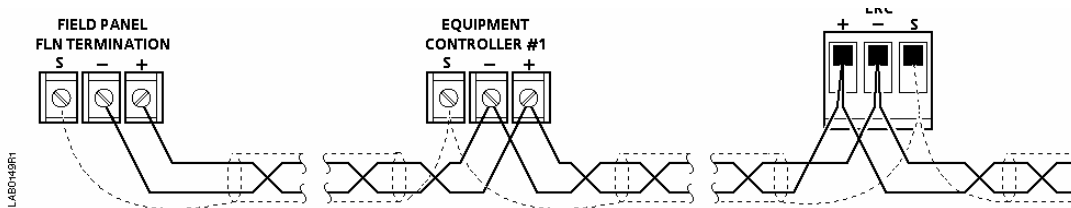

Figure 2. FLN Trunk Wiring.
5. Wire the FLN trunk to the LRC (Figure 2). After all controllers are connected to the FLN, reconnect the FLN trunk to the field panel.